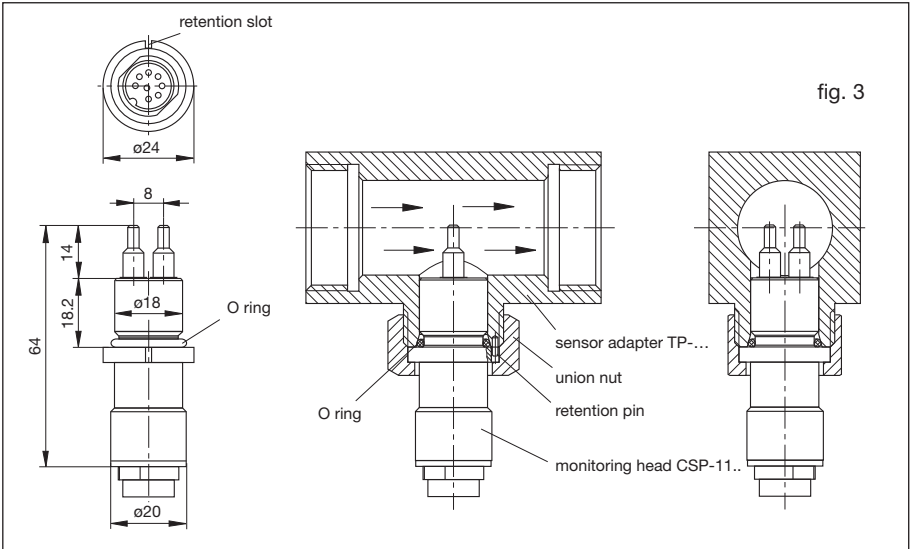

fig. 3
- Insert the monitoring head with the O ring into the sensor adapter and tighten the union nut (observe correct retention). (See fig. 3)
Sealing of the monitoring head in the sensor adapter is by means of the O ring provided (fig. 3).